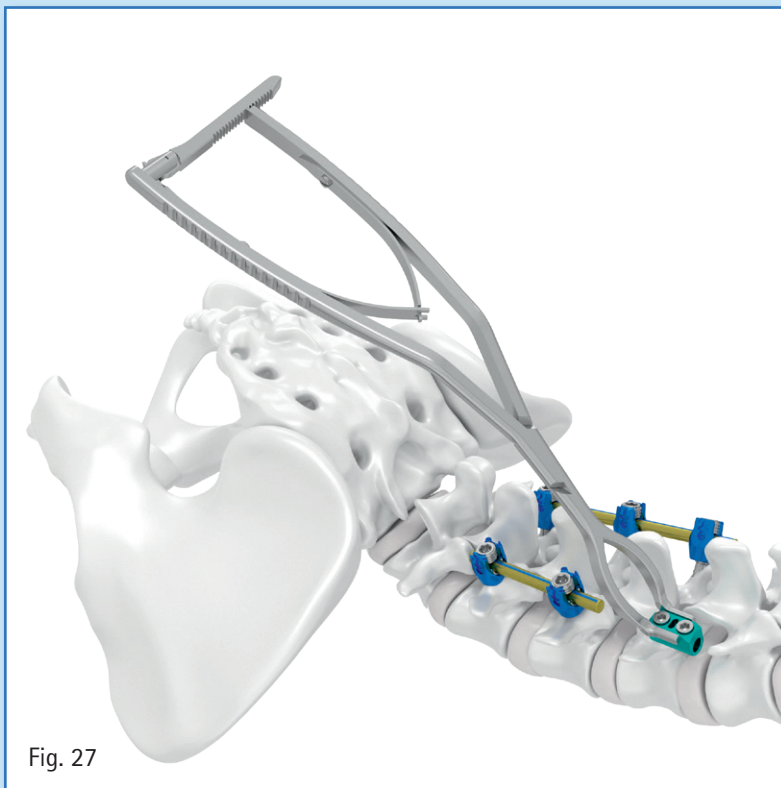

Fig. 27
1. Engage the Rod-to-Rod Holder (SZ295R) to the desired Axial Rod-to-Rod Connector, and fully seat the rod of the existing construct inside the connector and tighten the set screw provisionally. (Fig. 27)